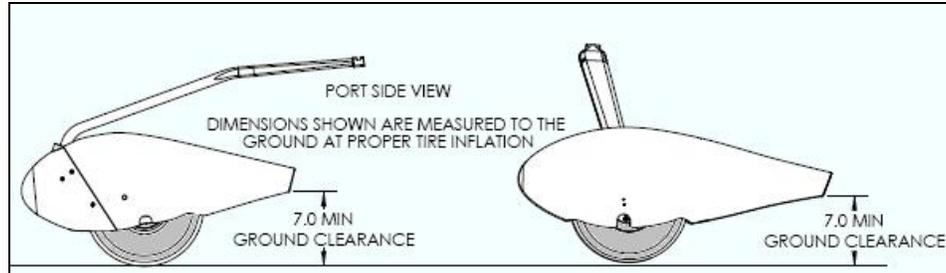

Figure 32-11 Ground Clearance
5. Verify wheel fairing ground clearance is a minimum of 7 inches as shown in Figure 32-11. Small adjustments can be made prior to application of final torque.